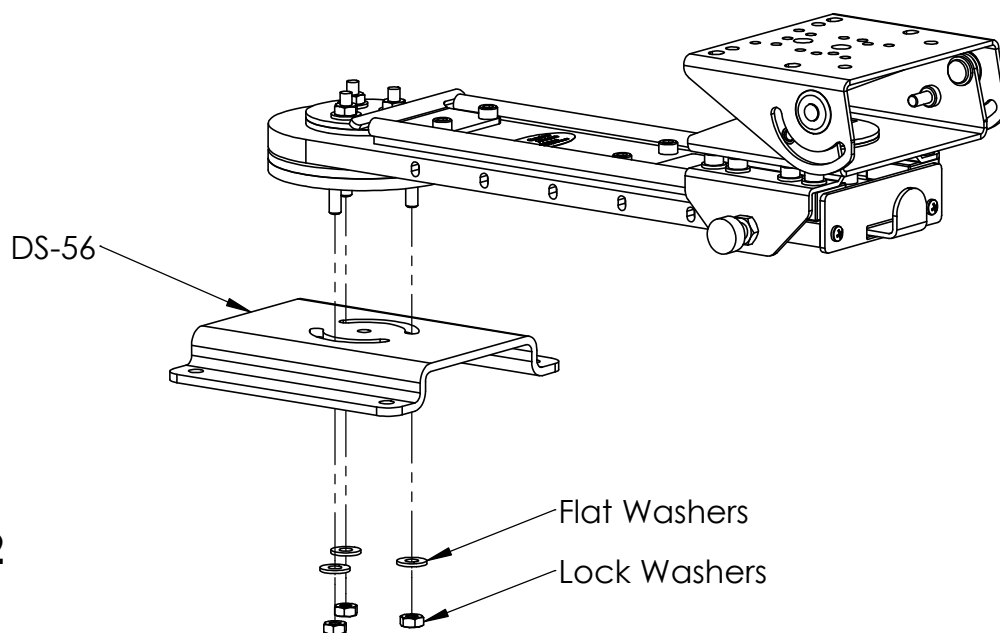

Figure 2
2. To mount on a DS-56 or other type of mounting equipment that contains a Gamber-Johnson swivel pattern cutout, set the base on the mount so the 1/4-20unc studs protruding through the cutout. Two studs should protrude through one of the cutout and one stud should protrude through the opposite cutout. Attach with the flat washers and lock nuts that are provided in the hardware bag. (See Figure 2)